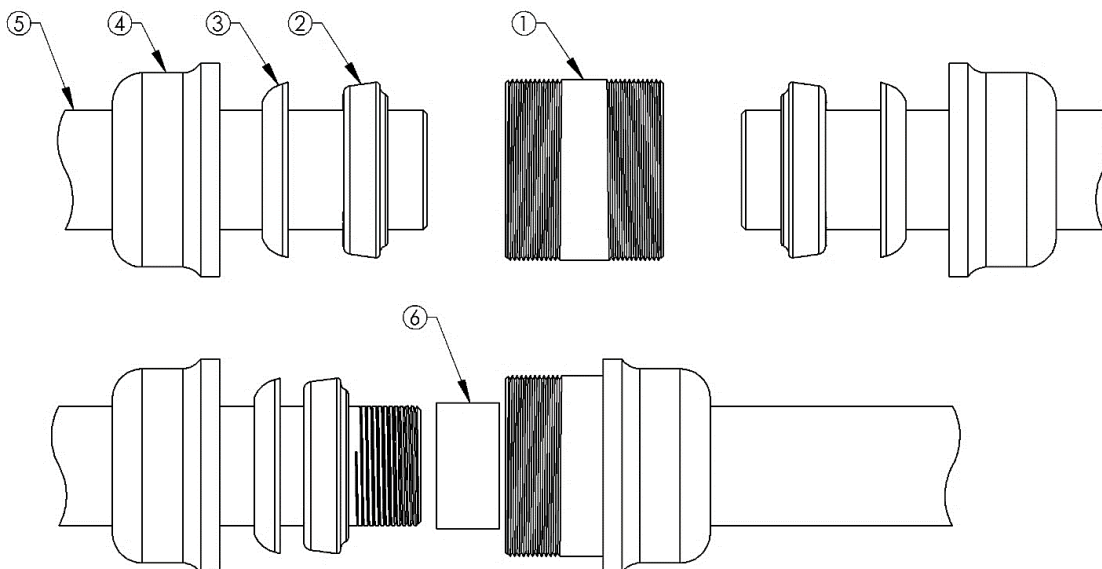

FIGURE 1.1 QUIK-JOINT FULL COUPLING (EXPLODED VIEW)
- 2) INSTALL END NUT, RETAINER RING AND GASKET ON BOTH USER PIPES, AS SHOWN IN FIGURE 1.1